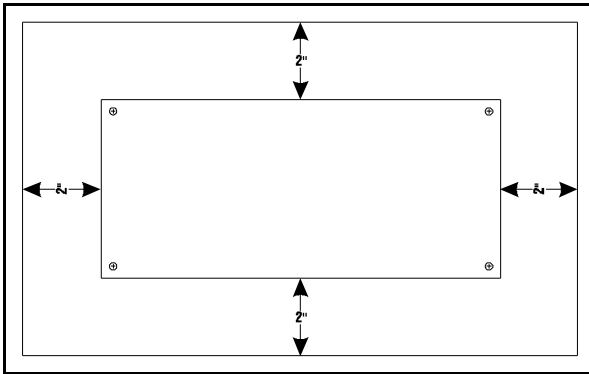

FIG. 3-1 2" CLEARANCE AROUND THE MODULE
- Step 1. Make sure that the Weigh Module has at least 2 inches clearance around the entire weigh module. (See Fig. 3-1)